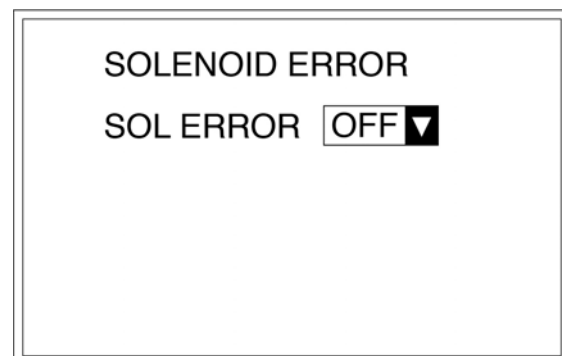

FIG. 56
2. Press ENTER to display the SOLENOID ERR setup screen (FIG. 56).